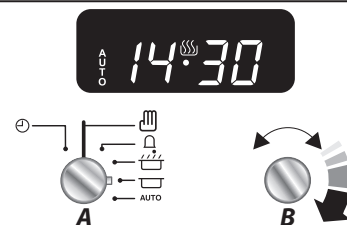

Fig. 3.6
2. Turn the **Adjusting (B)** knob to the amount of cooking time required. The display will show the current time plus the additional cooking time you have set (**Fig. 3.6**).
Press and hold the [] button and set the required 'cook period' by pressing the [+] button (or [-] button) (Fig. 3.6). The clock will now control the cook period of your oven(s). The [] symbol and [AUTO] will be displayed.